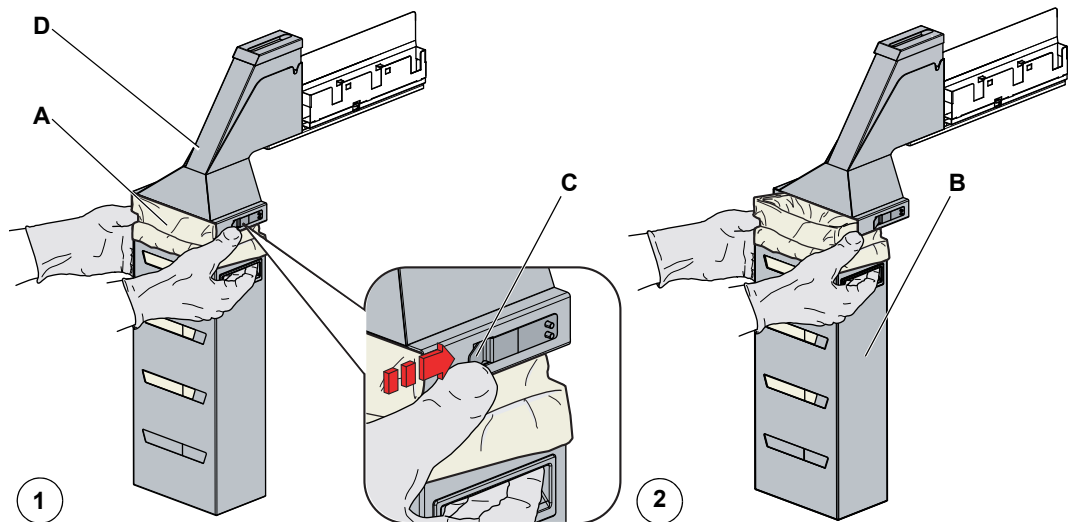

Fig. 7-9 Changing the waste bag
- 1 Lift the fastener (C) to remove the bag housing (B) Fig. 7-9 , Fig. 7-20.
- 2 Remove and dispose the waste bag (A) appropriately Fig. 7-9 , Fig. 7-20.
- 3 Install a new DiTi waste bag (A) into the empty bag housing (B) Fig. 7-9 , Fig. 7-20.
- 4 Install the bag housing (B) onto the DiTi waste slide Fig. 7-9 , Fig. 7-20.